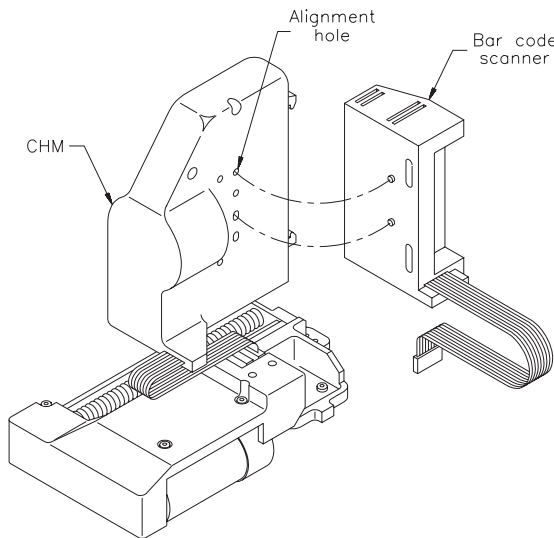

Figure 3 Attaching the bar code scanner to the CHM
1. Use the locating pins on the back of the scanner to clip the scanner to the first and third holes on the CHM (see Figure 3).